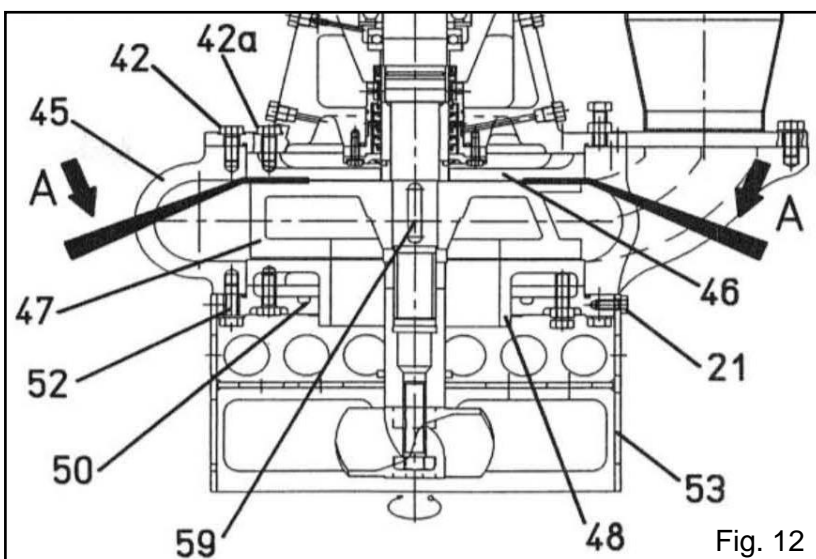

Fig. 12
- Remove the filter **53** (Fig. 12) by unscrewing the screws **21**.
- Unscrew the cutter **54** by hitting it smartly in an anticlockwise direction as shown in Fig. 13; make sure the impeller **47** (Fig. 12) is blocked with an iron rod.
- Extract the flange on the suction side **50** (Fig. 12) after having removed the screws **52**. With the flange pos. **50** the lower wear plate **48** also will come down.
- Remove the casing **45** (Fig. 12) after having removed the screws **42**.
- Extract the impeller **47** using two levers "A" (Fig. 12). If it sticks use an extractor, taking care not to damage the threaded part of the motor shaft.
- Remove the key **59** and slacken the screws **42a** (Fig. 12) to let the upper wear plate **46** coming down.